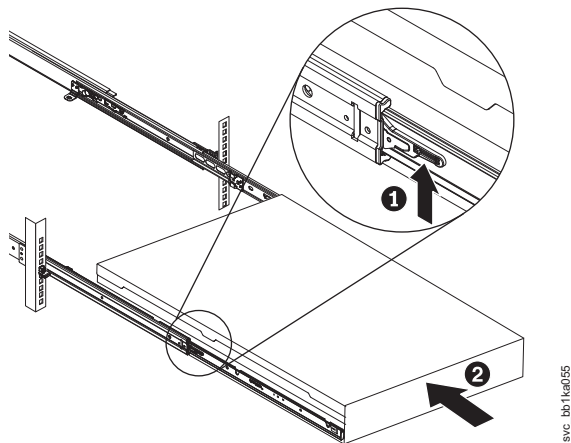

Figure 326. Raising the locking levers of the slide rails of the rack
18. Lift the locking levers (**1** in Figure 326) on the slide rails and push the server **2** all the way into the rack until it clicks into place.